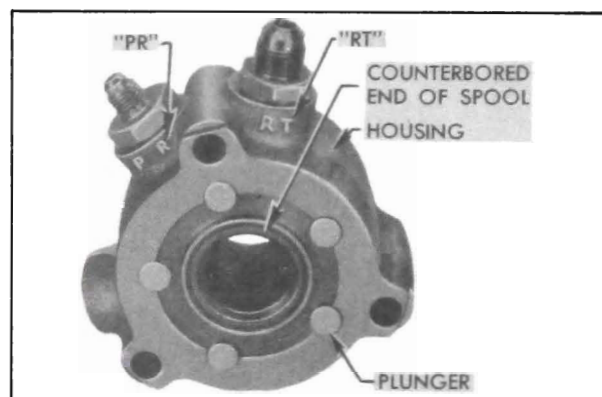

Figure 8-29—Spool Installed in Valve Housing
6. Place valve housing on bench with the return ("RT") port to the right of the pressure ("PR") port, then carefully install the valve spool *with the counterbored end upward* as shown in figure 8-29. **NOTE:** The spool is a very close fit in housing and must be started carefully to avoid jamming. Do not force spool into place.